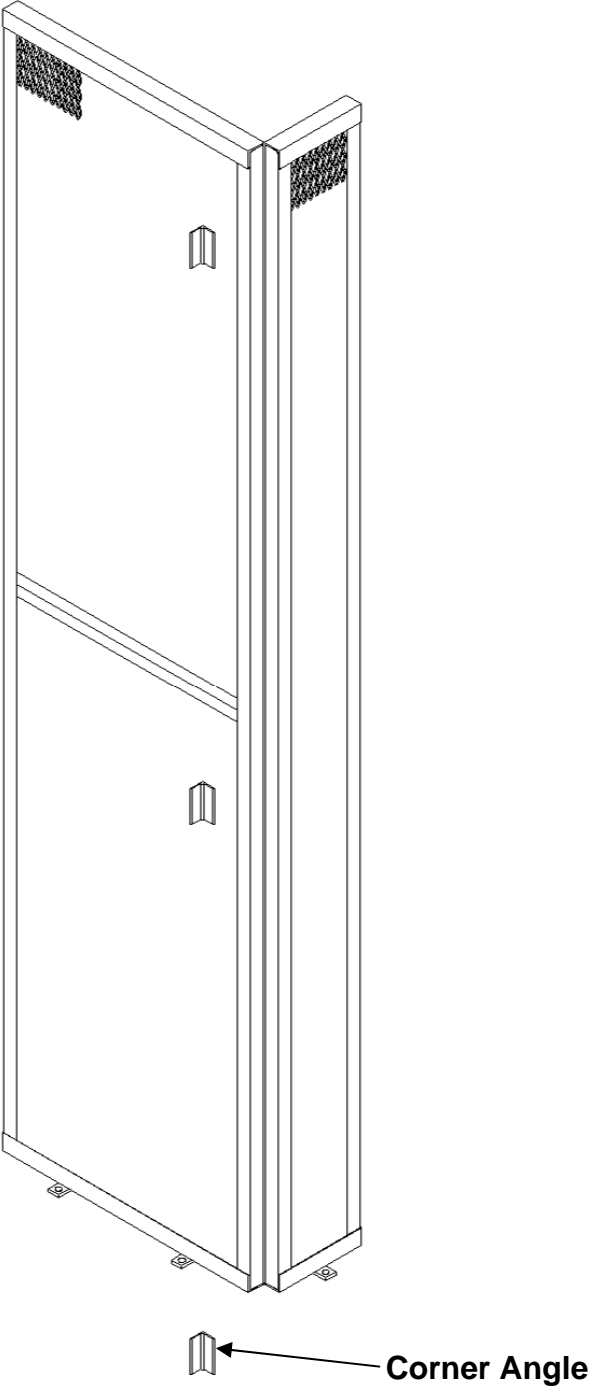

Figure 19 - Corner Angles
2. The next panel will connect to the first panel. In most cases, this will be a corner. Use three 3” long corner angles and TEK screws to attach panels at the corner (see **Figure 19**).